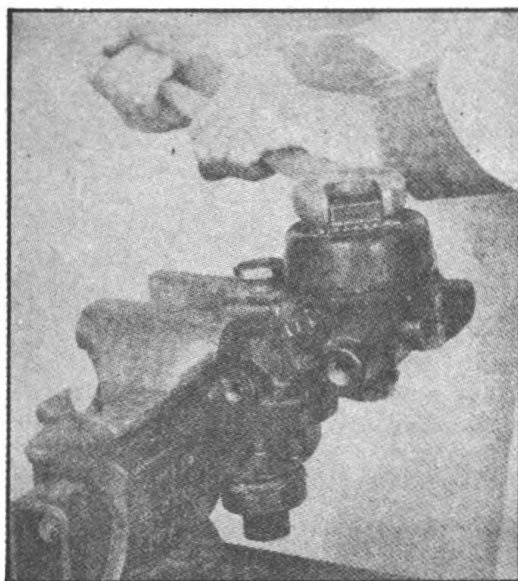

FIGURE 37. REMOVING TOP COVER PLATE
1. With the valve held firmly in a vise, remove top cover (A) (Figure 37).